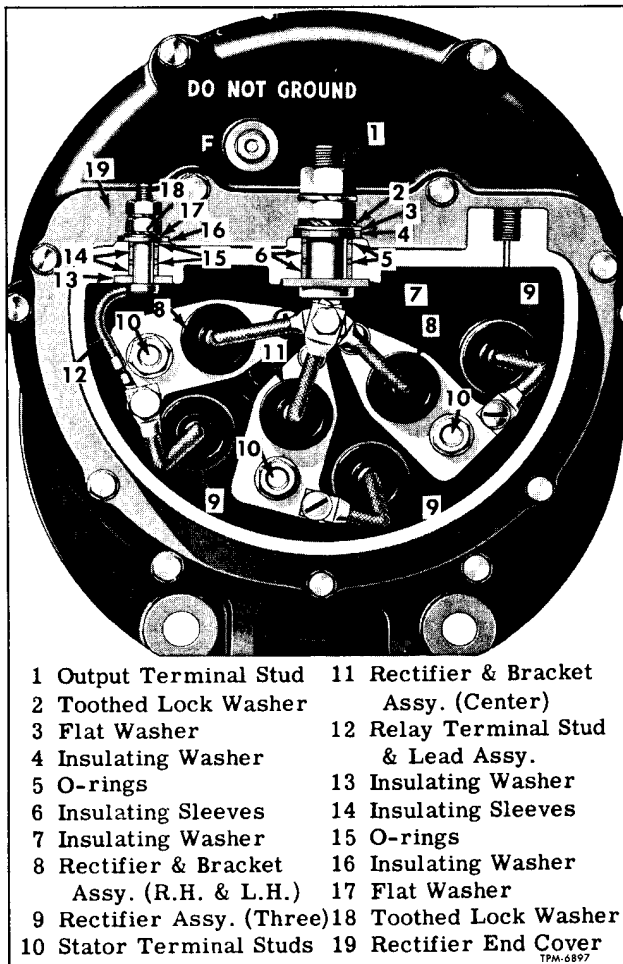
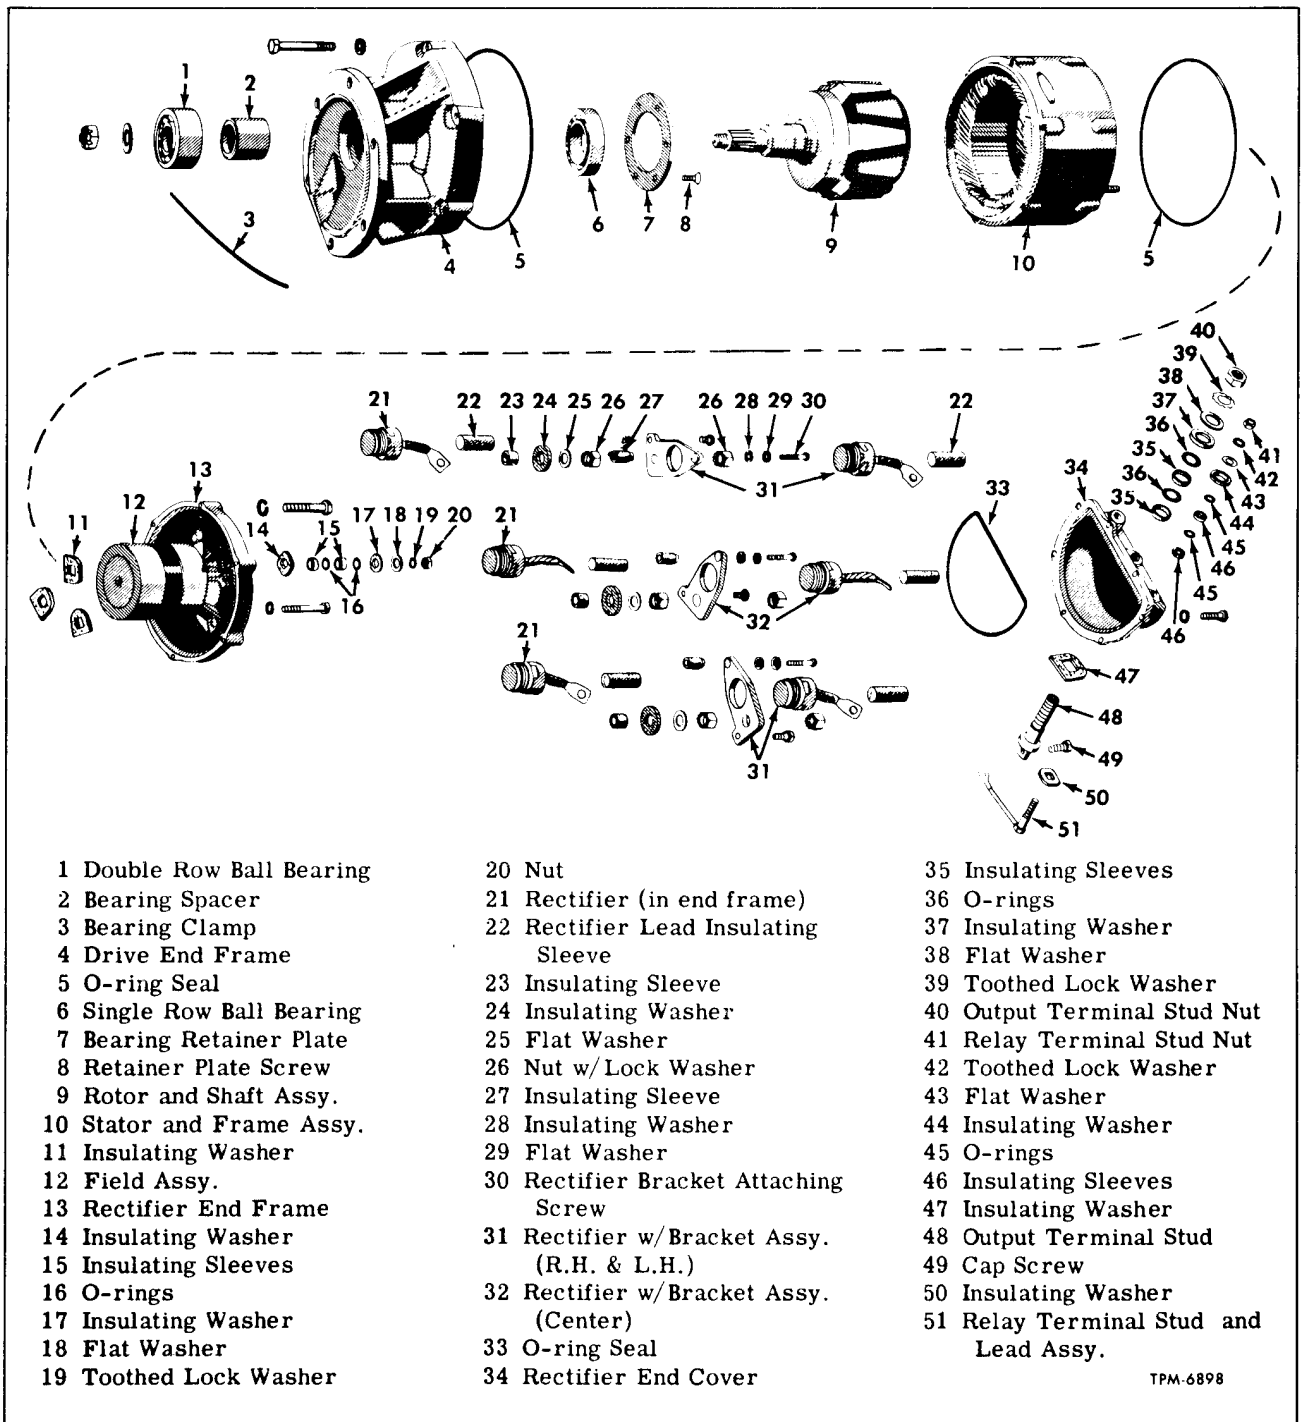

Figure 7—Cutaway View Through Rectifier End Cover
Figure 10—Generator Components
1. Remove nuts, lock washers, flat washers, and insulating washers from output terminal stud and relay terminal stud (fig. 7). Tap studs lightly, then push studs down into rectifier end cover.
The three rectifiers which are mounted in brackets attached to stator lead studs (fig. 7) are serviced only as rectifier and bracket assemblies. The two outer rectifier and bracket assemblies
Key numbers in text refer to figure 10. Refer to figure 7 for assembled view.
Key numbers in text refer to figure 10.
3. Place new O-ring seal (33, fig. 10) in groove in rectifier end frame.